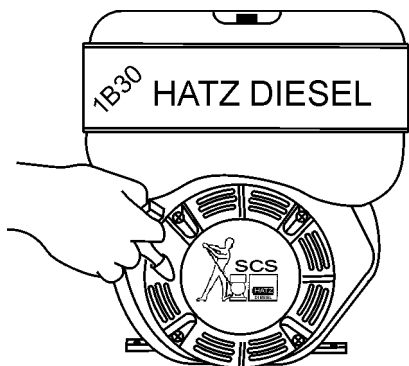

Figure 13. Recoil Starter Grip
- Pull the recoil starter grip (Figure 13) 2 or 3 times. **DO NOT** start the engine.